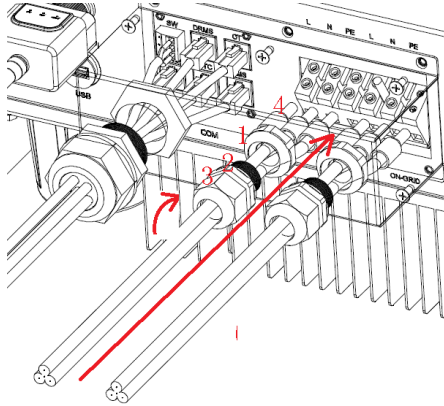

Fig. 6.3.2.1
- ② Fix the waterproof terminal on the waterproof cover. In Fig. 6.3.2.1, route 2 through the waterproof cover and tighten 1.